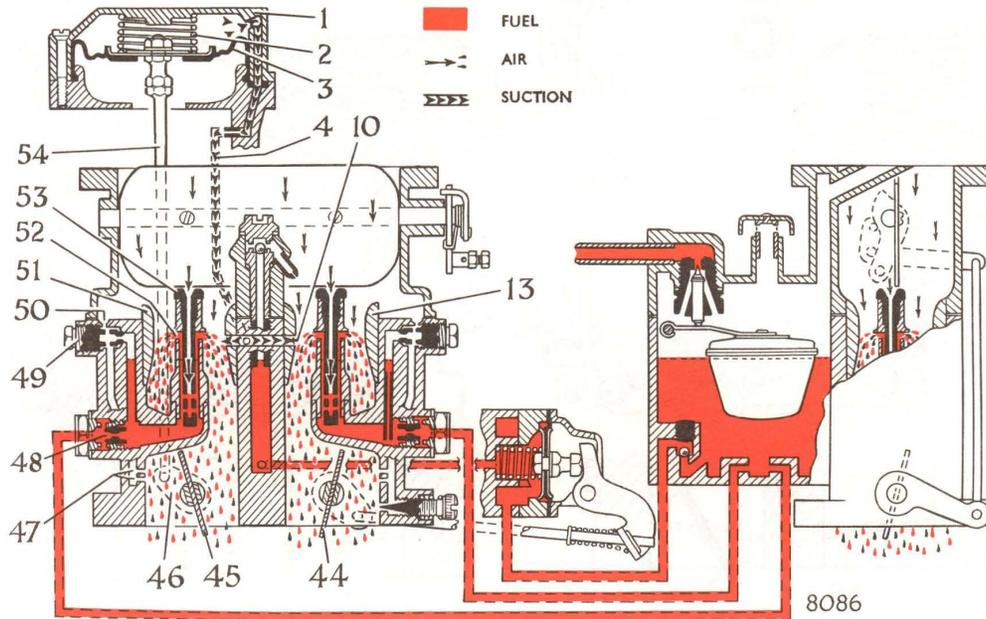

Fig. 9. Wide throttle driving conditions
**Wide and full throttle driving —** See Figs. 9 and 10